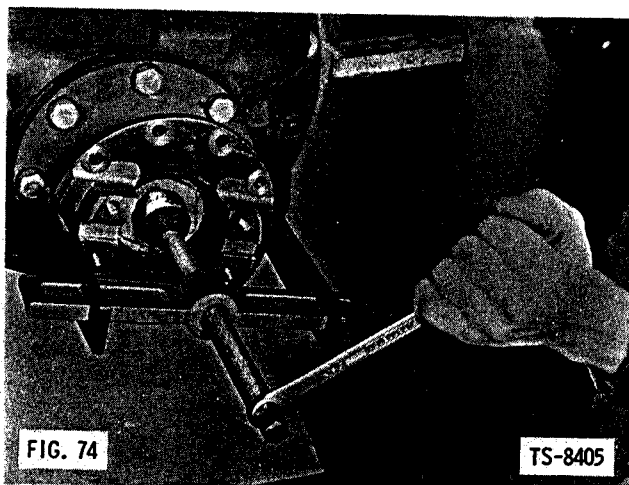

FIG. 74
9. Remove companion flange from pinion shaft with puller (Fig. 74).